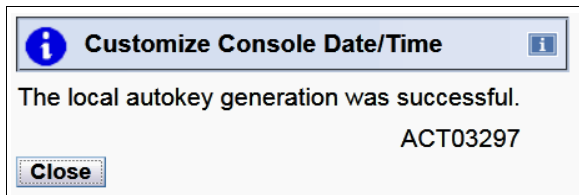

Figure 8-23 Autokey generation successful
4. When the Autokey is successfully generated, the confirmation window (see Figure 8-23) opens. Click **Close**.